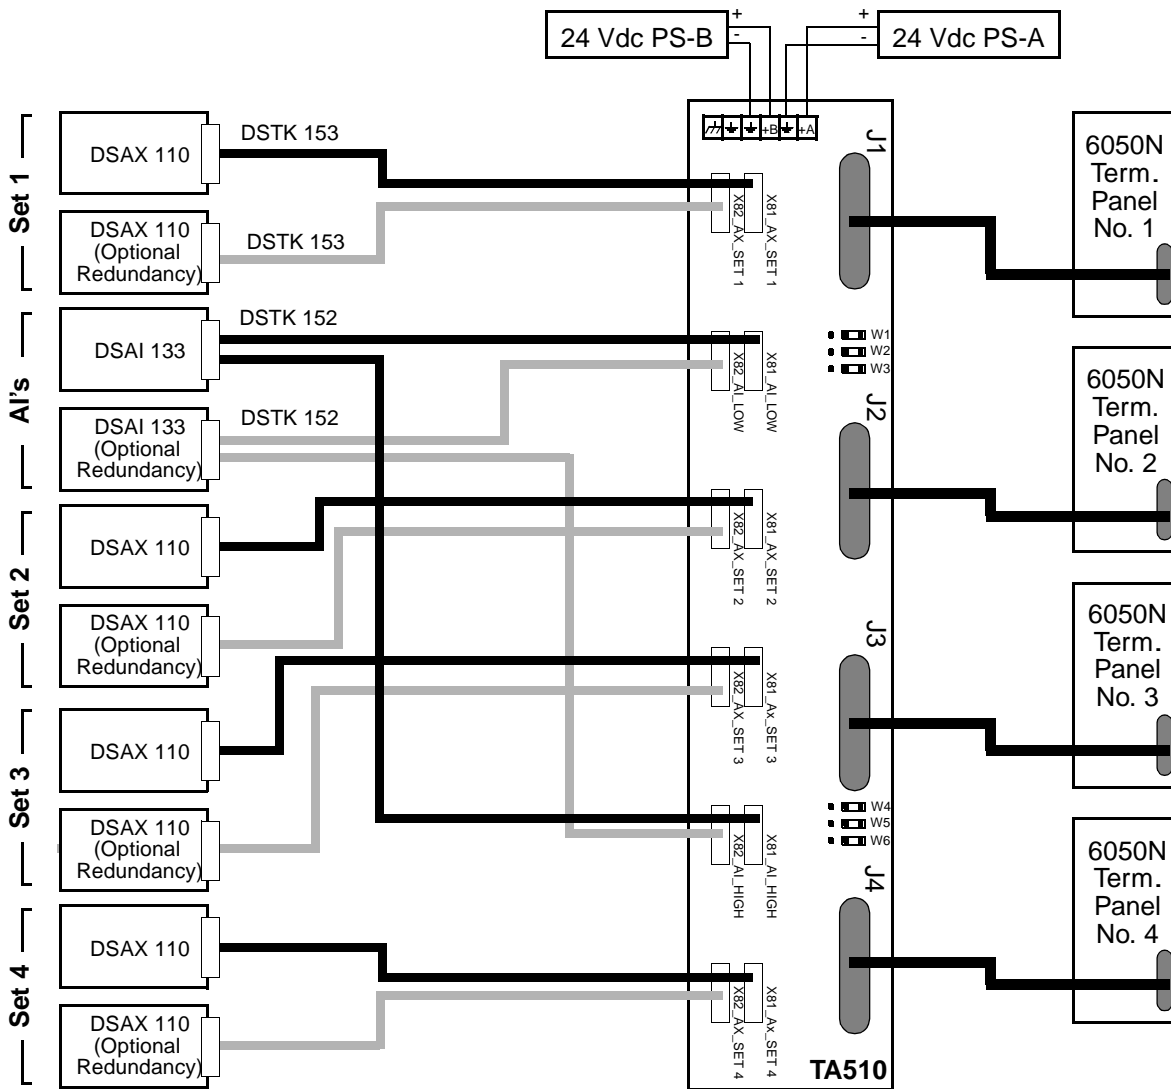

Figure 3-60. TA510 Analog I/O Conversion Panel Connections
The TA510 will allow the adaptation of the analog termination panels (6050N) to the S100 analog I/O modules (DSAI133 and DSAX110). Figure 3-60 shows the connections of the TA510 Analog Conversion Panel to 4 pairs of DSAX110 boards (total 8), one pair of DSAI133 boards (2), and to four 6050N Analog Termination Panels.